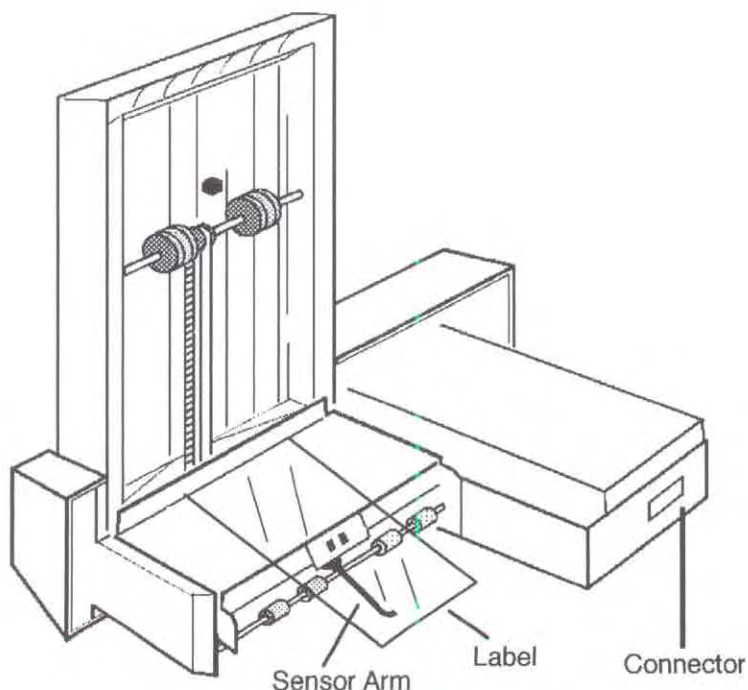

Figure 1-14. The Transport Module
Avoid damaging the sensor arm, located at the front of the Transport Module shown in Figure 1-14.
2. Plug the stacker connection cable into the matching connector at the front of the Transport Module (see Figure 1-14).